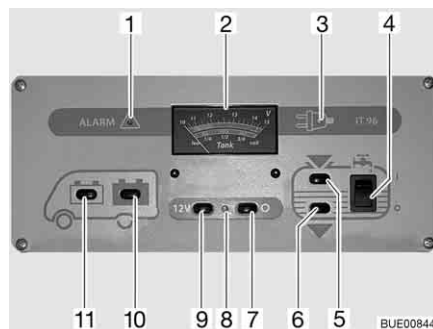

Fig. 117 Panel IT 96-2
The 12 V main switch (Fig. 117,7 and 9) switches the panel and the 12 V power supply to the living area on and off.
- Press switch (Fig. 117,9) "12 V": The 12 V living area power supply is switched on. The indicator lamp (Fig. 117,8) lights up green.
- Press switch (Fig. 117,7) "O": The 12 V living area power supply is switched off. The indicator lamp (Fig. 117,8) goes out.
With the V/tank gauge (Fig. 117,2), note the top scale. The gauge automatically lights up as soon as a switch is pressed.
- Press switch (Fig. 117,11) "": The battery voltage of the starter battery is displayed.
- Press switch (Fig. 117,10) "": The battery voltage of the living area battery is displayed.
The V/tank gauge is for the indication of the quantity of water or waste water. With the V/tank gauge (Fig. 117,2), use the bottom scale. The gauge automatically lights up as soon as a switch is pressed.
- Press switch (Fig. 117,5) : The volume of water is displayed.
- Press switch (Fig. 117,6) : The volume of waste water is displayed.
- Press the upper part of the rocker switch (Fig. 117,4) "I": The water supply is ON.
*Switching off:* ■ Press the lower part of the rocker switch (Fig. 117,4) "O": The water supply is OFF.
The red "ALARM" warning light (Fig. 117,1) flashes as soon as the voltage of the living area battery falls below 11 V (measured under operation) and there is a risk of a total discharge.
The 12 V indicator lamp (Fig. 117,8) illuminates whenever the 12 V main switch (Fig. 117,9) is switched on.
The yellow 230 V indicator lamp (Fig. 117,3) illuminates whenever line voltage is available at the transformer/rectifier input.